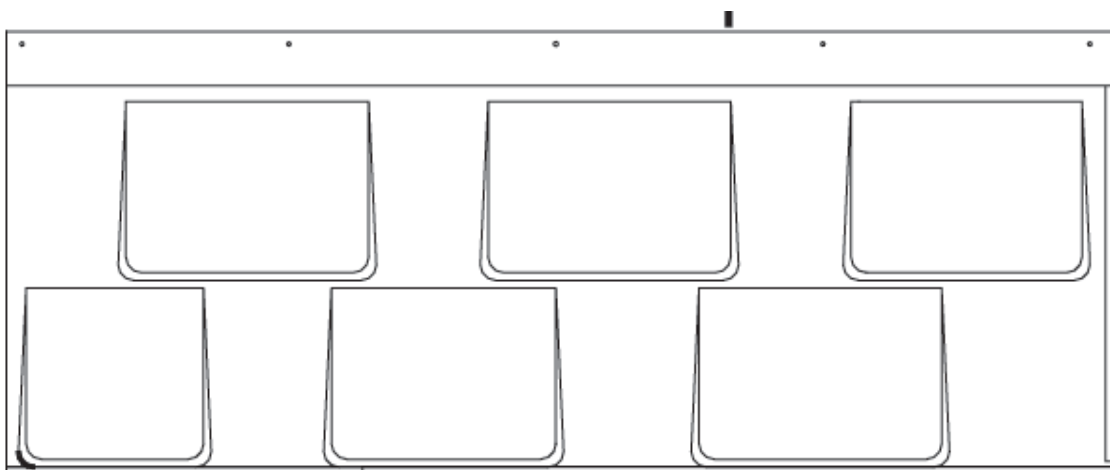

Figure 1: *Advanta*[®] Shingle Roof Panel
3.3. Profiles – *Advanta*® Shingle Roof Panels are 14 inches by 36-½ inches with a 12 inch by 36 inch exposed area. The installed weight is 0.95 psf. See Figures 1 and 2.